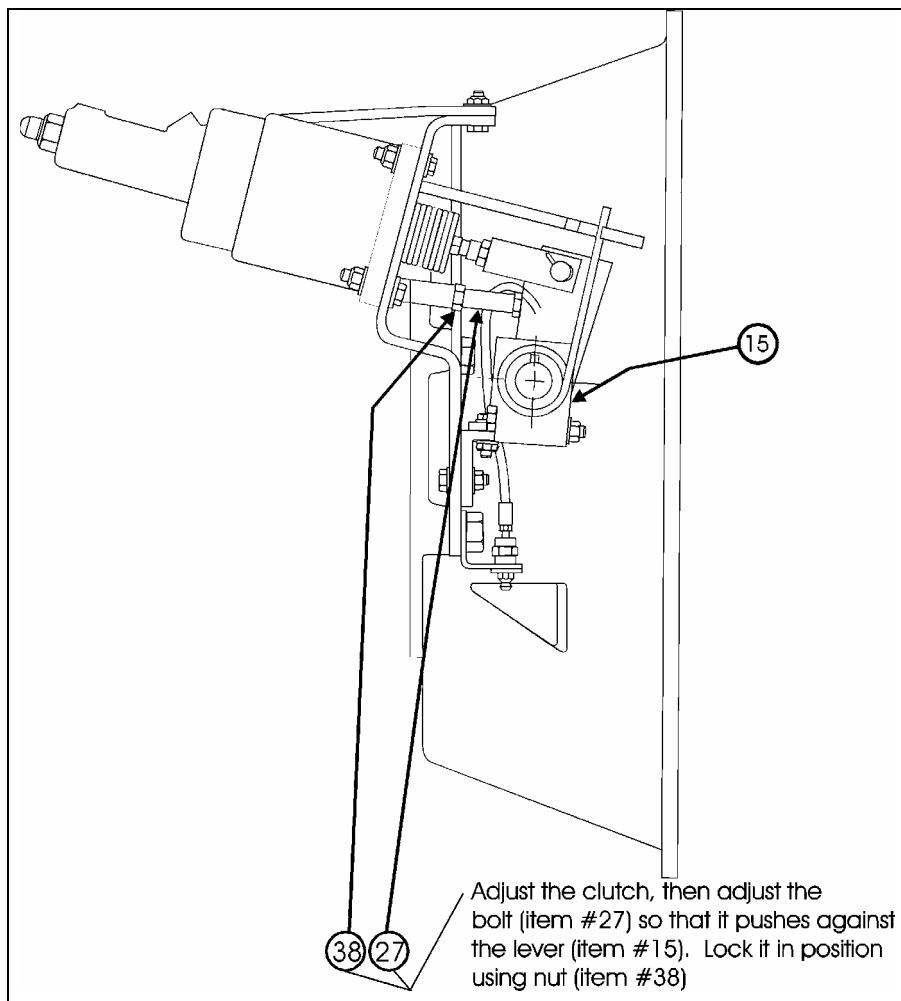

FIGURE 4
5. Adjust the gap to 3mm slot and adjust the stop (item #27 of figure 4).